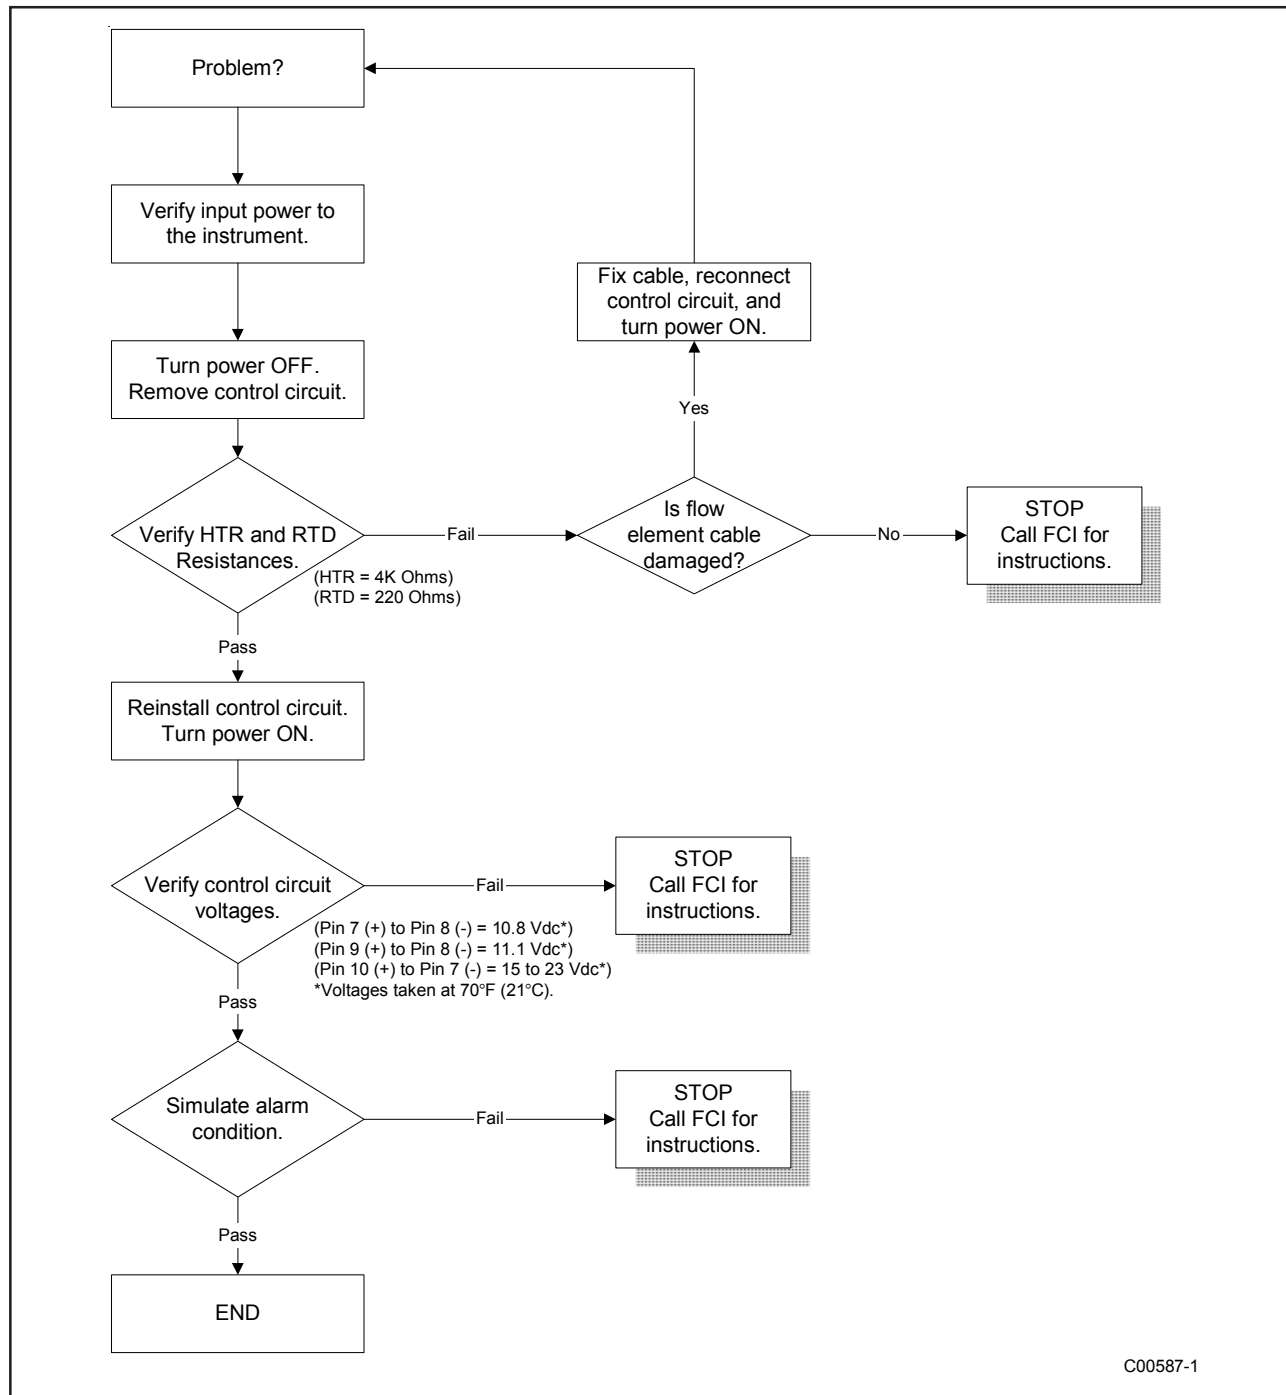

Figure 4 - Troubleshooting Flow Chart
- Follow the trouble shooting flow chart in Figure 4 near the end of this section.